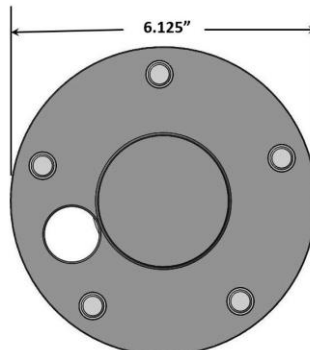

Figure 1 – Measuring the Axle Flange
4. The outer diameter of the axle flange can be no larger than 6.125" in outside diameter. This is critical for proper fitment of the rotor over the axle flange. For axle with a flange larger than 6.125", using a lathe, machine the outer flange down to no larger than 6.125". See Figure 1 below for reference.